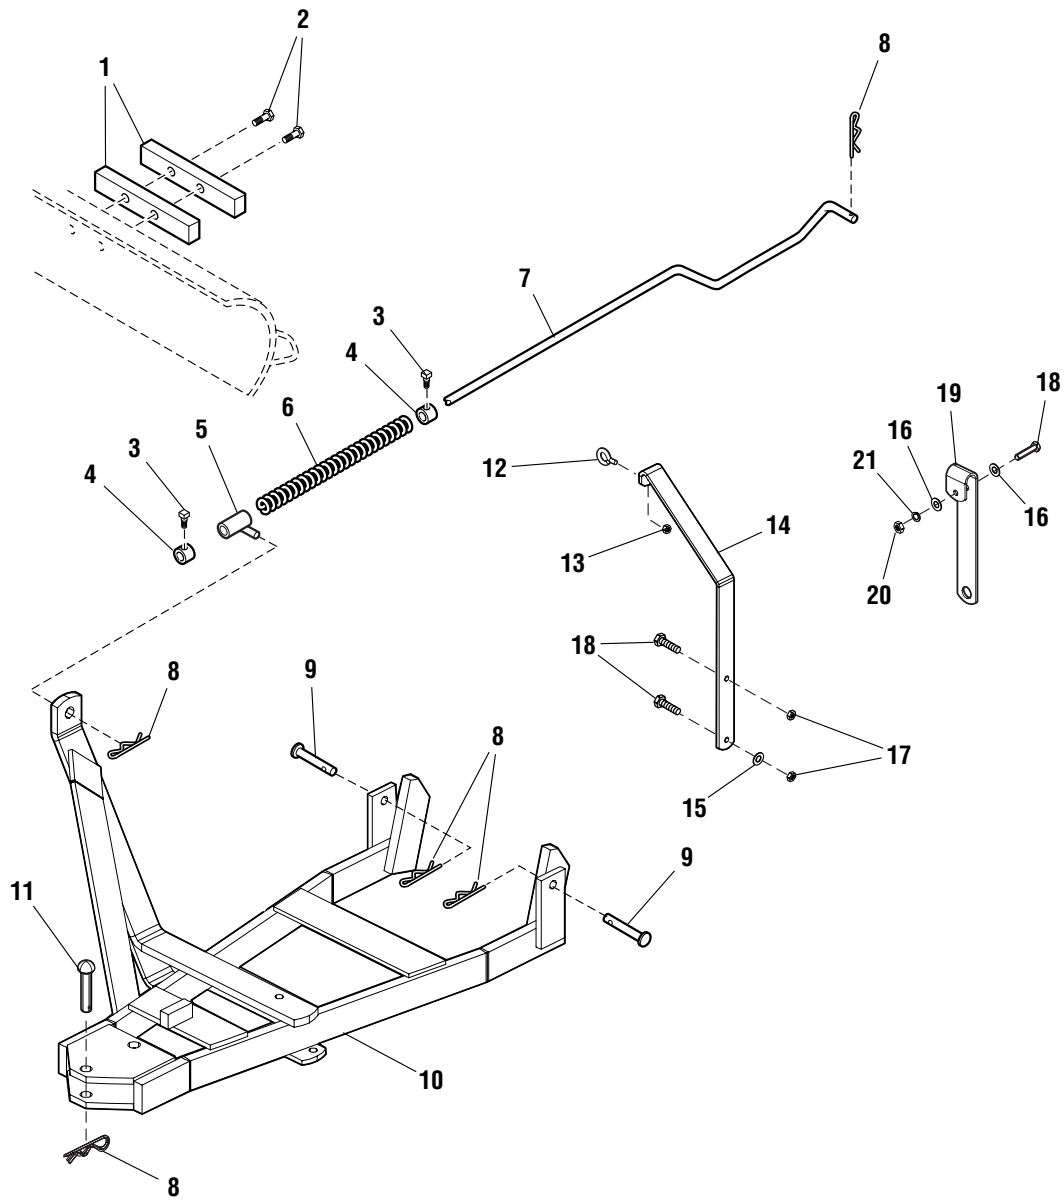
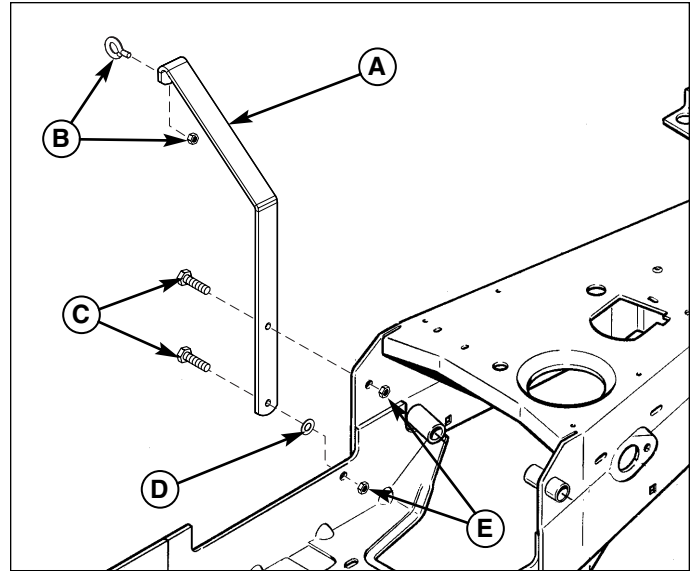

Figure 8. Push Bar, Hitch, & Lift Rod Components
Figure 13. Control Rod Support
NOTE: If installing the dozer attachment on a unit equipped with a snowcab, replace the control rod support (A, Figure 13) with the hanging support (Ref. No. 19, Figure 8). Mount the hanging support to the front cab cross-bar.
1. Set the angling control support (A, Figure 13) against the right side of the frame. Insert two 5/16-18 x 1-1/2 capscrews (C) through the support (A), and frame. Space the lower hole away from the frame with a 5/16 washer (D). Secure using flange locknuts (E).
2. Install the eyebolt (B) in the support (A) and secure with a centerlock nut.